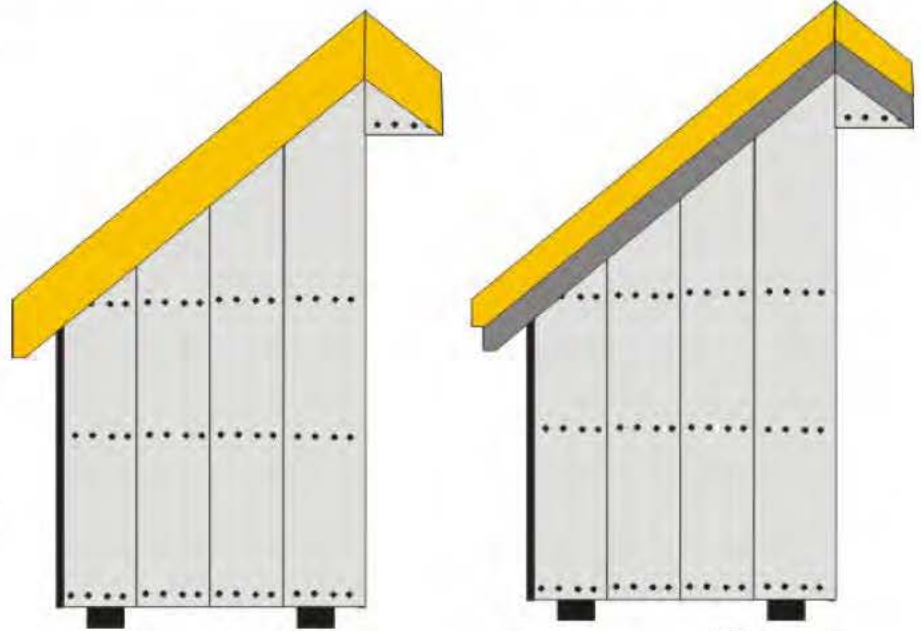
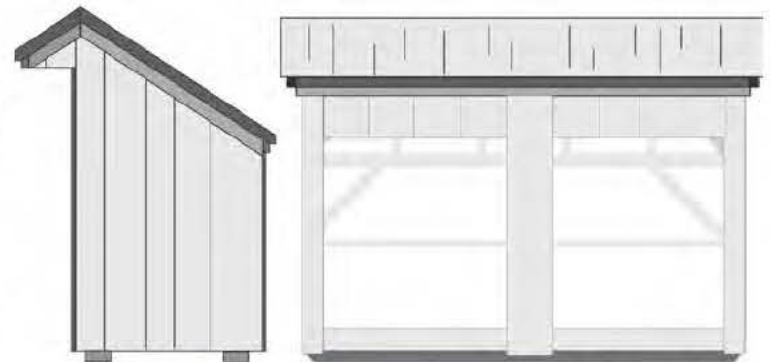

Figure 1
Figure 2
Step 1. Apply the 1x8 fascia to the two gable walls cutting them flush to the rafter ends. The rafter patterns that were made for the roof framing contain the same angles that you will use for cutting the fascia to match the rafter tails on the gable ends. The fascia is intentionally run long in the PCK's in order for a tight fit. Use a hand saw to cut off any excess. Figure 1. Fascia should be attached using three 6d galvanized nails 24" on center. Finish the fascia completely before beginning the shadow trim.
Step 3. Install the 1x4 shadow board using the same technique as the fascia. Figures 1 and 3. Nail in place using two 6d galvanized nails at each rafter or 24" on center on the gable ends. Once the fascia is complete, begin the shadow trim. Figure 2 shows both and fascia and shadow trim finished.